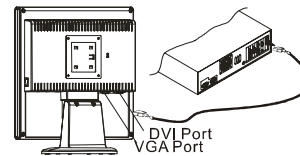

Figure 1-5
2. Connect one end of the signal cable to the LCD Monitor's VGA port or DVI port.(See Fig 1-5)